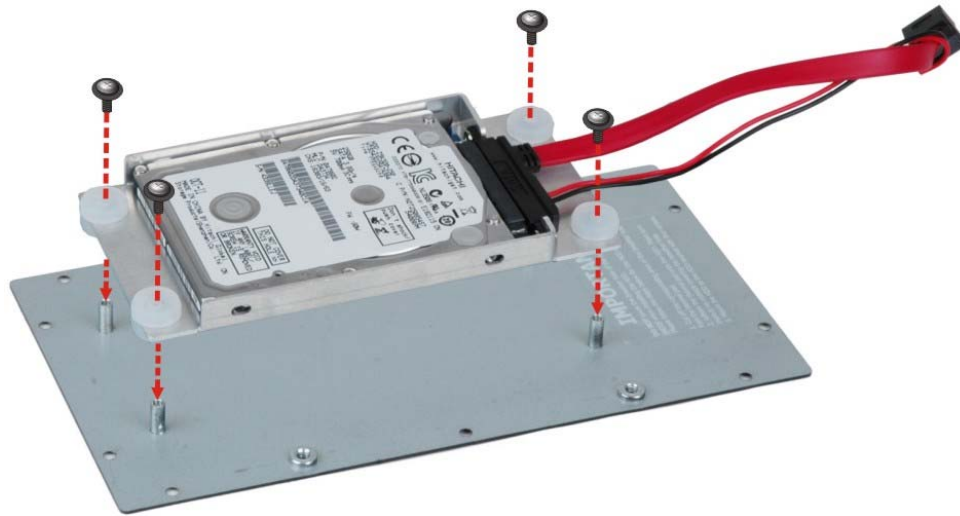

Figure 3-5: HDD Retention Screws
Step 3: Slide the HDD into the bracket and connect the HDD to the SATA cable connector on the bracket (**Figure 3-5**).
Step 5: Secure the HDD with the bracket by inserting four retention screws (M3*4) into the sides of the bracket (**Figure 3-5**).